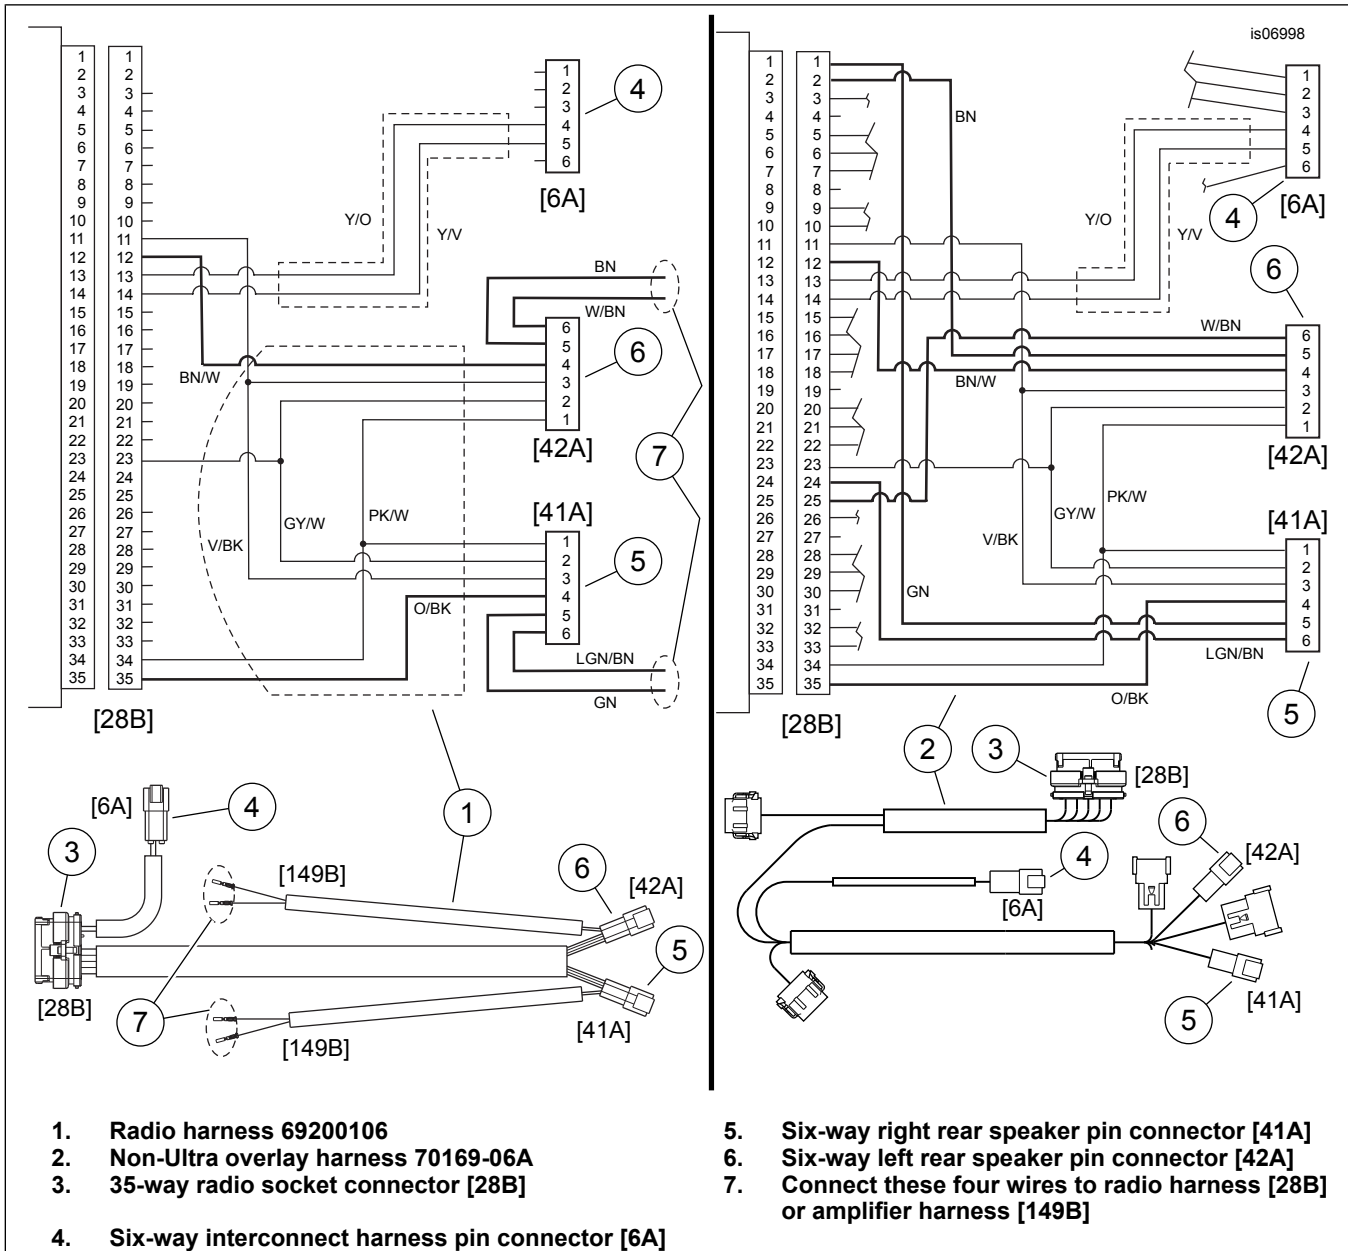

Figure 5. Radio Harness/Non-Ultra Overlay Harness Wiring Diagrams
5. See Figure 5. If not already done, plug the 35-way socket housing [28B] (3) from the radio harness (1) or non-Ultra overlay harness (2) into the back of the radio. Connect the six-way pin housing [6A] (4) to the vehicle interconnect harness. Secure with cable straps.